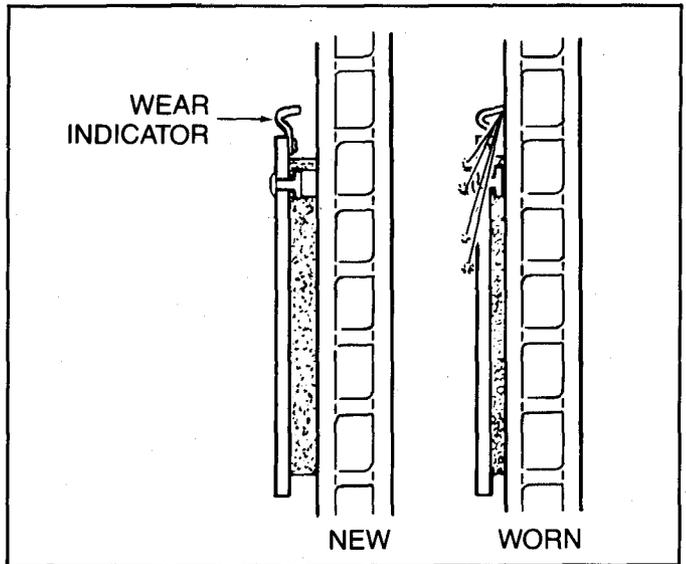

Figure 6-7 — Disc Brake Wear Indicators
1. Check for a full upward and full release of the brake pedal. Determine if the stoplight switch, cruise control switch or any other item does not allow full upward pedal travel. (See Figure 6-7.) The stoplight switch/brake pedal mounting bracket provides automatic adjustment when the brake pedal is manually returned to its mechanical "up-stop" position.
2. Pull the brake pedal fully rearward against the pedal stop until audible "click" sounds can no longer be heard. This moves the stoplight switch assembly in a tubular clip, as shown in Figure 6-7, and provides a proper adjustment.